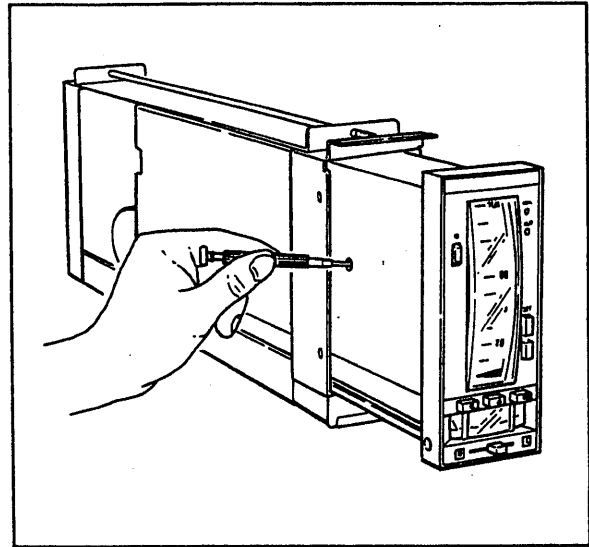

Figure 6-2-1. Adjusting Zero Point of Set Value Indicator.
- (1) Apply a 3.0 V DC standard voltage to input terminal X1 (terminal no. 1(+) and 2(-)) from a standard voltage source.
- (2) Check that the process variable pointer is at the 50% \pm 0.5% calibration mark on the scale.
- (3) If the indication is not within the specified range, adjust the zero adjustment screw as shown in Figure 6-2-1 until the pointer correctly indicates 50%.
- (4) Change the input signal in turn to 1.0V, 2.0V, 4.0V and 5.0V, and ensure that the indication is respectively 0%, 25%, 75% and 100%, using the calibration marks. Tolerance for each indication is \pm 0.5% of the span.
- (5) If the indication is not within the \pm 0.5% tolerance at any position, again input 3.0 V DC, and adjust the indicated value slightly — within the range 50% \pm 0.5%.
- (6) Repeat step (4). As necessary, repeat steps (4) and (5) until all points fall within the tolerance range.